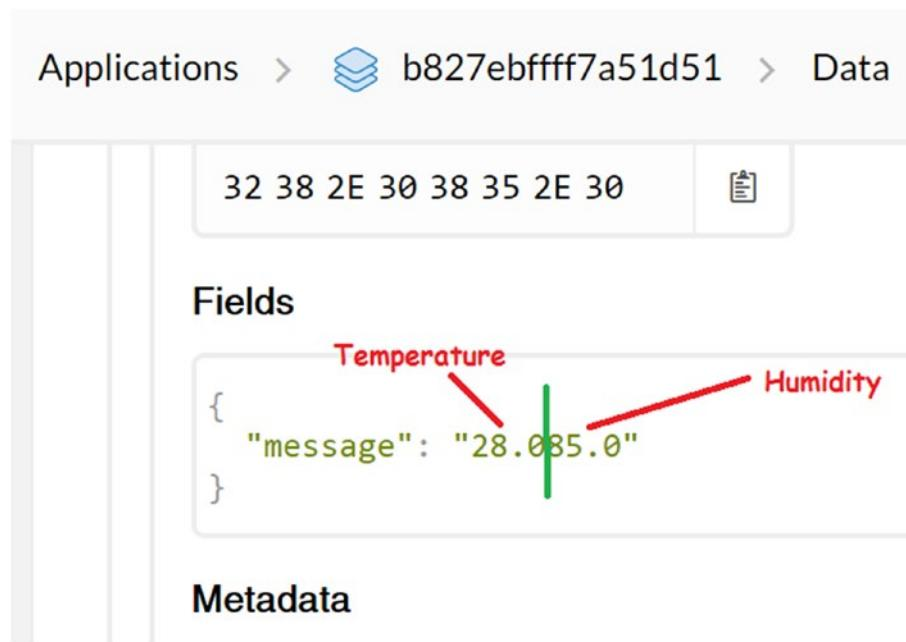

Figure 5-39. Decoding the payload to a single field
2. Click one of the list items to expand (Figure 5-39). In the Fields section, you can view the decoded payload as a readable string containing the temperature and humidity.